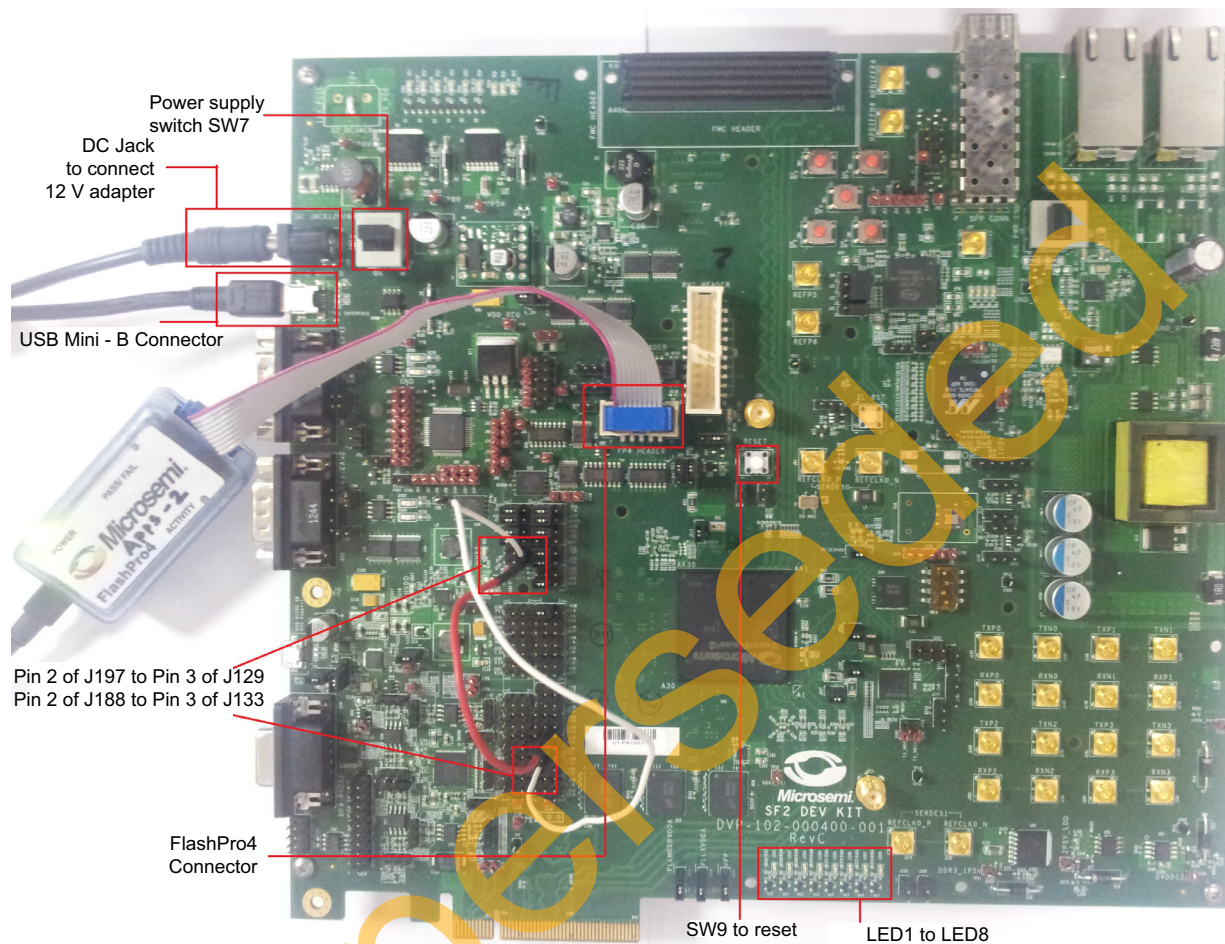

Figure 17 • Board setup when using the USB to UART (FTDI) interface using the USB A to Mini - B Cable
- Figure 17 on page 22 shows these pin connections.